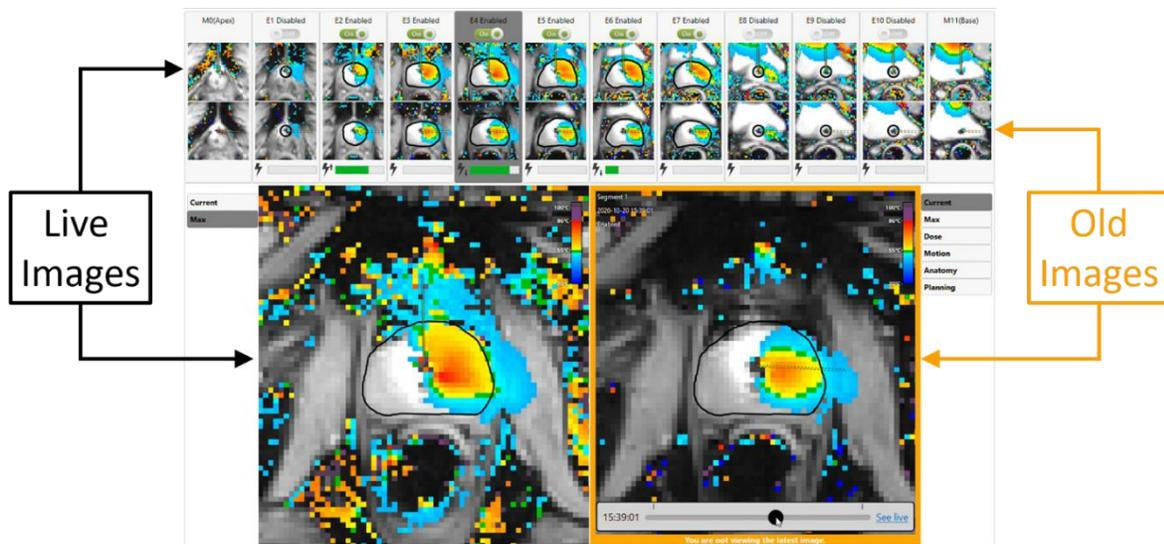

Figure 56: "You are not viewing the latest image" message below history slider
**NOTE:** When viewing images from previous timepoints, a frame around the right viewport shows that the latest images are not being viewed (*Figure 56*). A dashed line shows where the beam angle was at the previous timepoint. To return to the current timepoint, click **See live** or drag the History Slider until the framed message disappears.